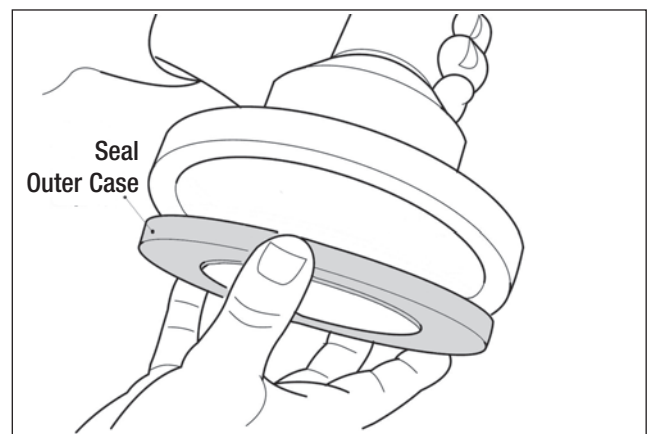

Fig. 4.9
4. Insert seal outer case into service tool MST4410 - CT26 (Fig.4.9)